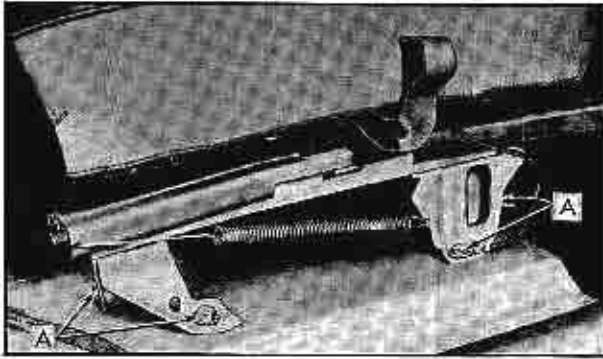

Fig. 3-55 Front Seat Assembly Removal
3. Remove seat adjuster to floor pan screws, Fig. 3-55, and remove seat assembly from car.